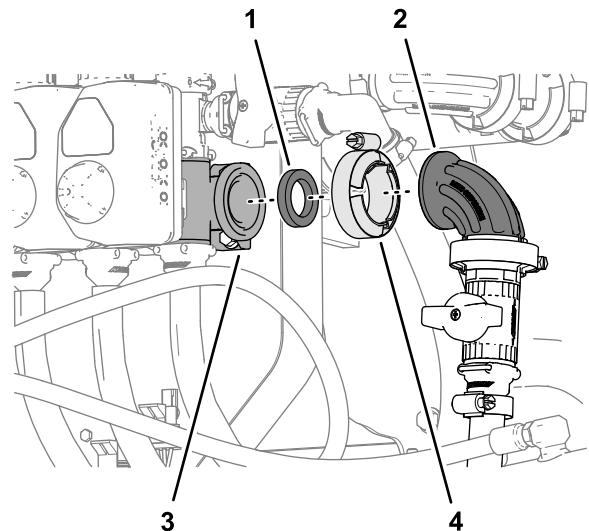

Figure 137
1. Assemble the 90° fitting of the shutoff valve for the optional spray wand kit or the electric hose reel kit onto the flange of nozzle valve 10 with the flange clamp and gasket, and tighten the clamp by hand (Figure 137).